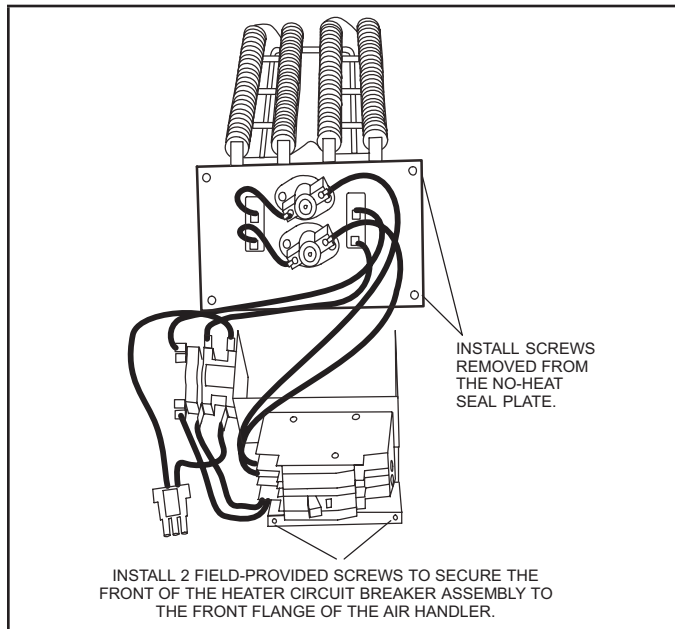

FIGURE 6. Installing the Heat Element Assembly
- 6 - Secure the electric heater assembly into place with the screws that were removed from the heat element panel. Install two field-provided #8 SDST screws in the front of the electric heater assembly (see figure 6).